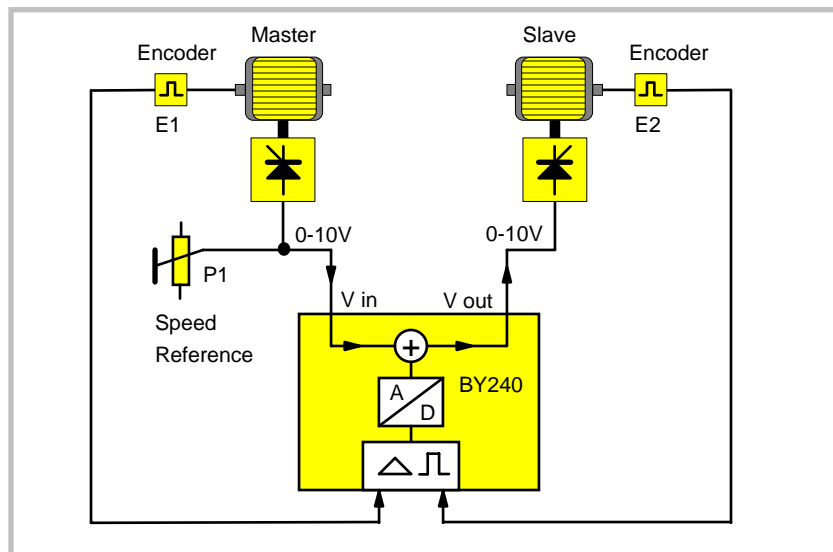

Fig. 3
Fig. 3 shows that a **feed forward signal "Vin"** is needed to run the drives, and a correction voltage is added to receive the total slave speed reference "Vout". It is easy to understand that the feed forward signal must be proportional to the master speed. There are two ways to generate Vin:
- a) Use of the master speed reference voltage, like shown in Fig. 3. This presumes the master drive does not use any remarkable internal ramps, because otherwise V_{in} would not represent the real master speed upon acceleration or deceleration. As a result, procedure a) must only be used when the master speed reference already includes the ramp (generated by a PLC output etc.) and the drive's internal ramp is set to zero or it's minimum value. However, a real speed analogue signal from a tacho generator can be used at any time. **Analogue feed forward should only be used when replacing older existing BY200 units against a new BY240 version.**